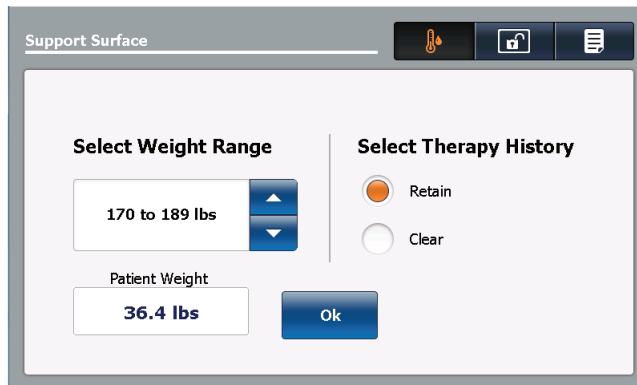

Figure 49: Surface setting screen
**Note:** When the **Isolibrium** support surface is detected, the **Select Weight Range** screen will display (see Figure 49 on page 63). This screen will persist until a selection is made.
1. Tap the up and down arrows to select the desired weight range (Figure 49 on page 63).
Tap **Retain** to keep therapy history (see Figure 49 on page 63).
Tap **Clear** to delete therapy history (see Figure 49 on page 63).